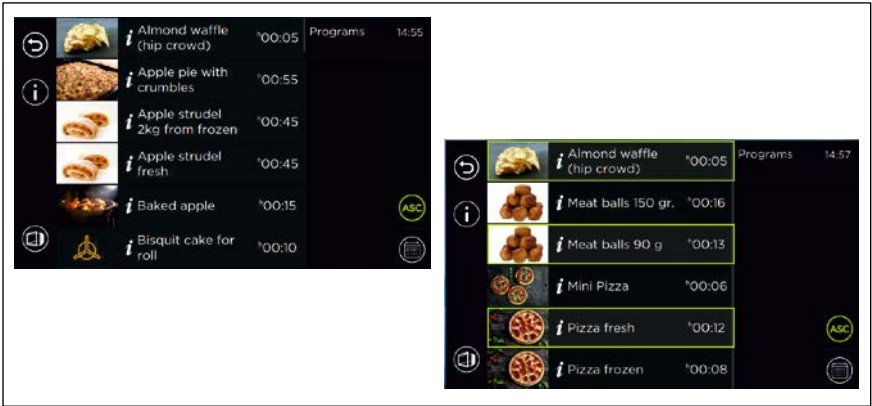

Fig. 26: Program selection list display (QuickModeASC)
8. The *Program selection list display in ASC mode* screen appears (see Fig. 26).